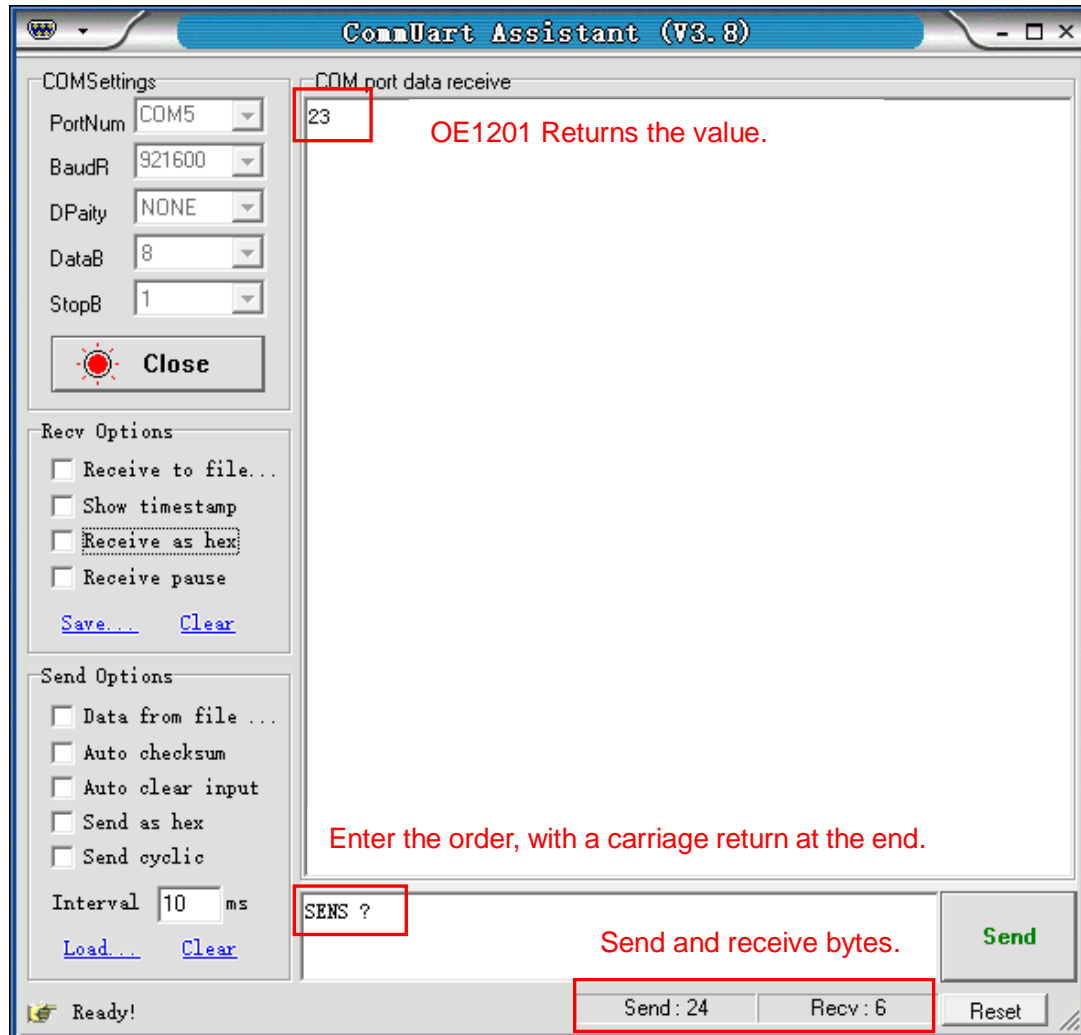
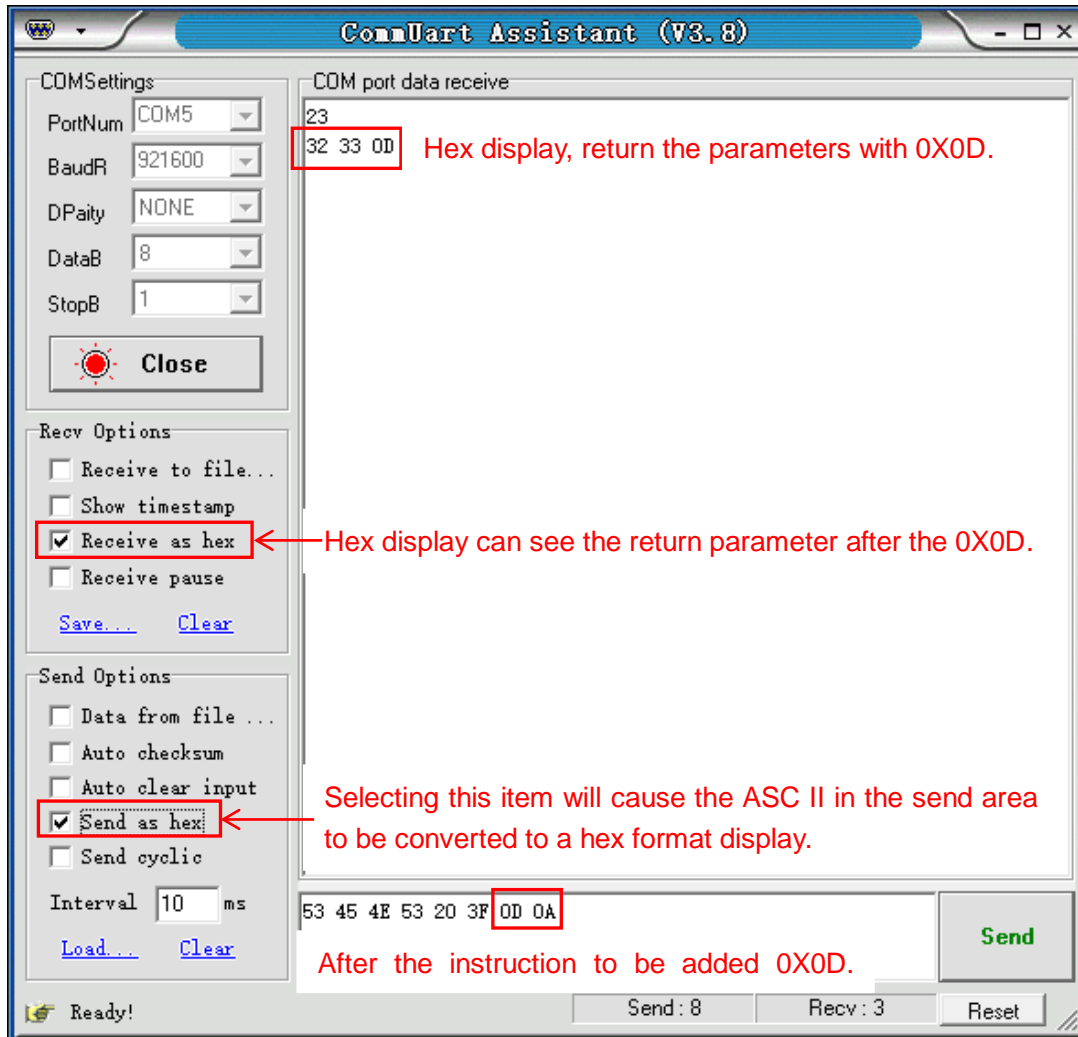

Fig.75 Send and receive commands in ASCII words
Fig.76 Send and receive commands in HEX
1) The commands consist of four upper mnemonics, option parameters and a terminator. Several commands at the same line are separated by semicolons. More details please see Chapter 5 Remote Programming. The terminator can be a carriage return <cr> or a hexadecimal number 0D. When sending the command, first input the command in the sending area, then press the Enter key, then click the 'Send' button, the command will be sent. As shown in Fig.75 and Fig.76.